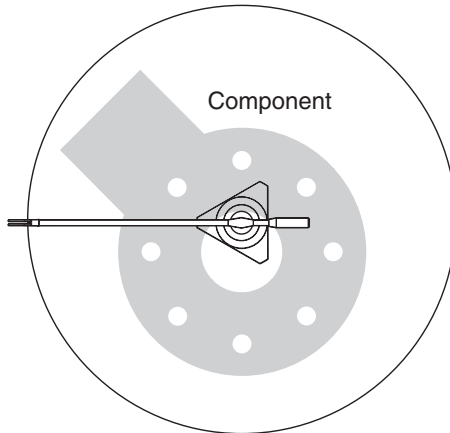

Figure 7 - Positioning the tower
6. Ensuring that base of the tower is approximately central to the component volume, position the tower on the table of your CMM (see figure 7).